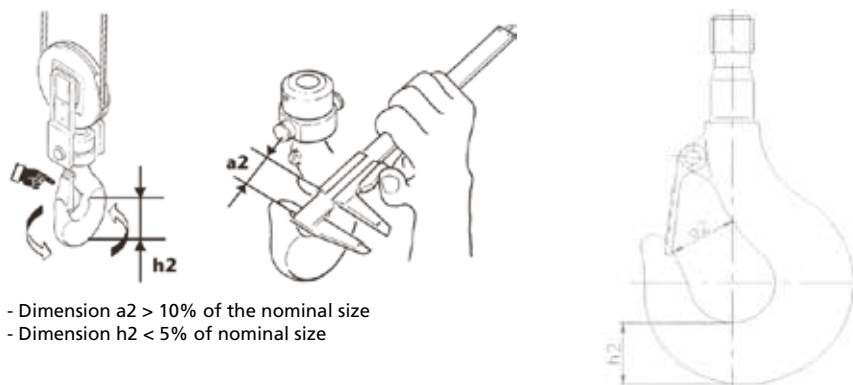

fig.77
Quarterly check of the efficiency of the lifting hook (fig.77):
- ▶ To check the dimensional characteristics of the hooks, see the table (fig. 77)
Characteristics of the lifting hooks of DMK hoists (fig.77)